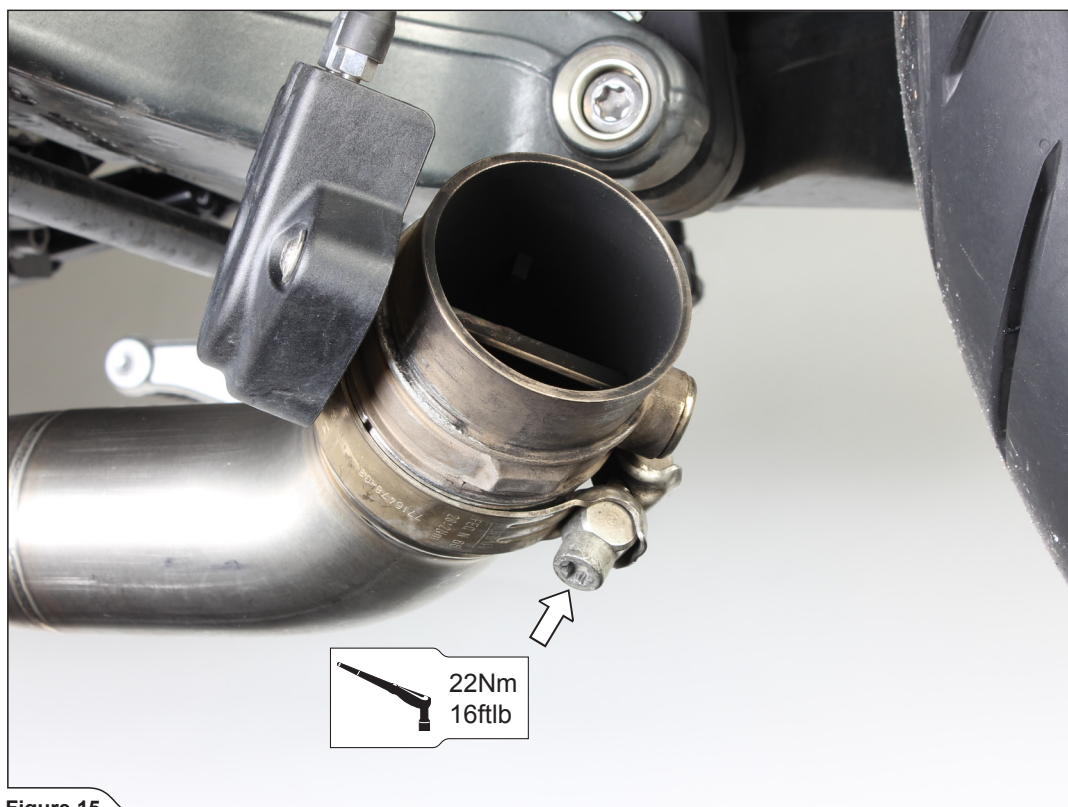

Figure 15
7. Correctly position and slide the stock exhaust valve onto Akrapovič collector. Tighten the stock metal clamp to a specified torque (**Figure 15**).